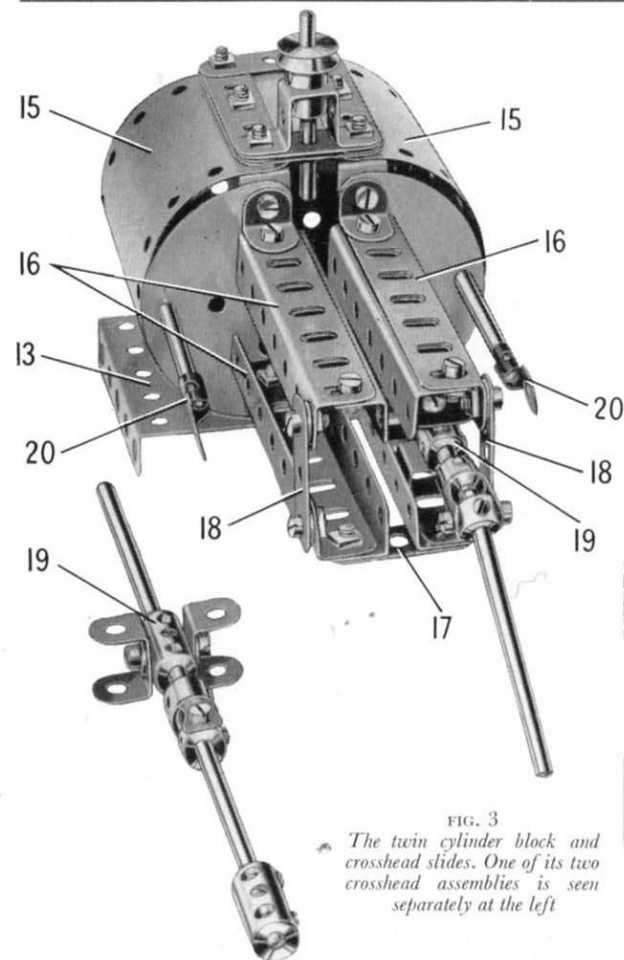

FIG. 3
The cylinder block is assembled on a  $3\frac{1}{2}$ "  $\times$   $2\frac{1}{2}$ " Flanged Plate (13) (Fig. 3) fitted at each flange with
#### The Crankshaft and Valve Control Eccentrics (Figs. 3, 6, 7 and 8)
The outer crankshaft webs are each made from a Flat Trunnion fitted with a Double Arm Crank (28) and a Crank (29). The inner web is made from two Flat Trunnions bolted together at right angles, the bolts holding also the Cranks (30) (Fig. 7). The webs are held together by 1" Rods fixed in the Cranks (29) and (30), and a  $1\frac{1}{2}$ " Strip bolted to an End Bearing (31) is carried on each Rod. The crank webs are fixed on a  $4\frac{1}{2}$ " Rod (32) (Fig. 6) on one side and a 4" Rod (33) on the other. A Triple Throw Eccentric is fixed on each Rod, and these are linked by made-up strips to the Rod and Strip Connectors (20) (Fig. 3) on the valve rods. The End Bearings (31) (Fig. 6) are connected by made-up rods to the Swivel Bearings on the piston rods. The made-up strips are formed by  $5\frac{1}{2}$ " Strips overlapped, and each made-up rod consists of a 2" and a  $2\frac{1}{2}$ " Rod joined by a Coupling.